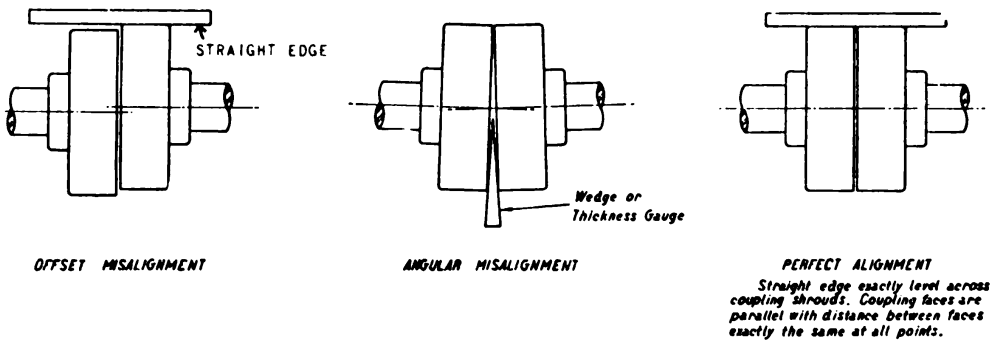

Figure 14—Check Alignment
- (1) Remove Coupling chain.
- (2) Place a straight edge (figure 14) across the face of the teeth of both halves of Coupling Pinions. This should be done at four points on the coupling separated approximately 90 degrees. The distance between the faces of the pinion halves should be checked at four points with a thickness gage.